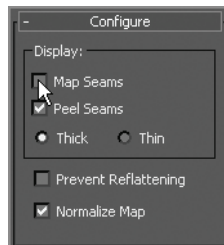

FIGURE 11.1
4. At the bottom of the Configure rollout, uncheck Map Seams, as shown in Figure 11.1.